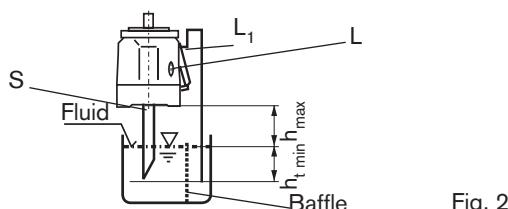

Fig. 2
b) If the min. fluid level is below the pump mounting face: pipe ports " L_1 " and " S " acc. to fig. 2 "L" plugged. (see also limit of conditions)
Above the reservoir as in fig. 2. Before installation fill pump housing, keeping it in a horizontal position.